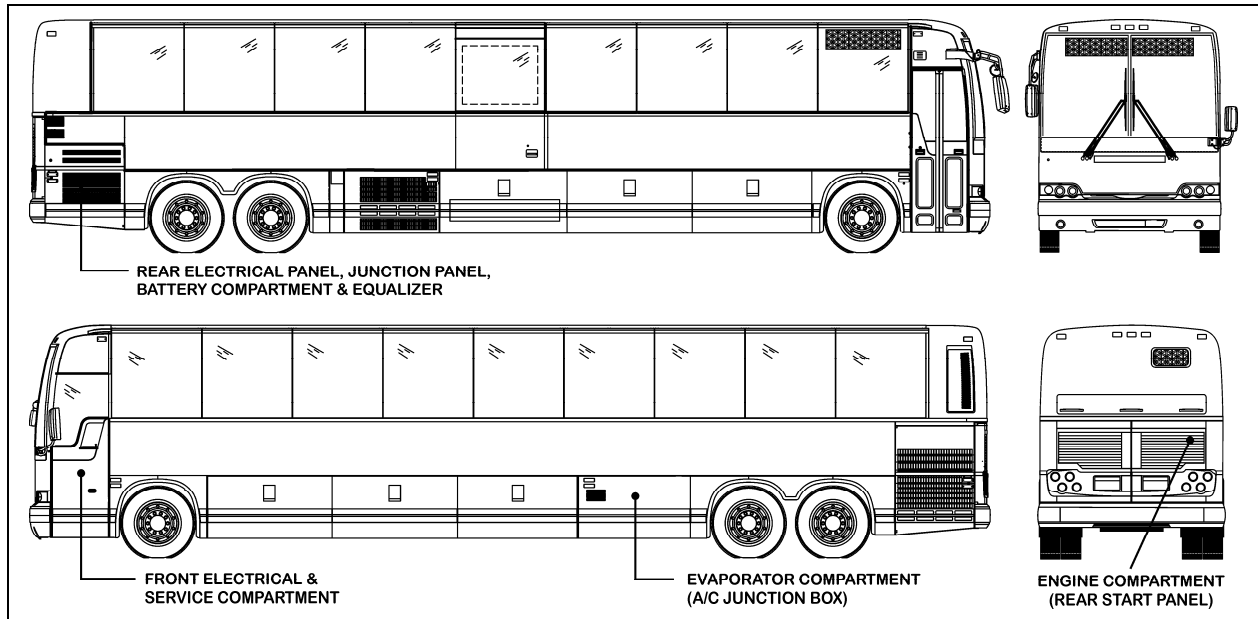

FIGURE 4: ELECTRICAL COMPARTMENTS (X3-45 COACH)
The vehicle is provided with two (2) maintenance-free Group 8-D 12 volt heavy-duty batteries connected in series-parallel (Fig. 4 & 9). The top-mounted negative and positive terminals are tightly sealed to prevent leaks. Water never needs to be added to this type of battery. There are no filler caps in the cover. The battery is sealed, except for small vent holes in the cover. The vents must not be restricted as they allow small amounts of gases produced in the battery to escape. The special chemical composition inside the battery reduces gassing to a very small amount at normal charging voltages. Besides reducing gassing, the special chemistry greatly reduces the possibility of overcharge damage.